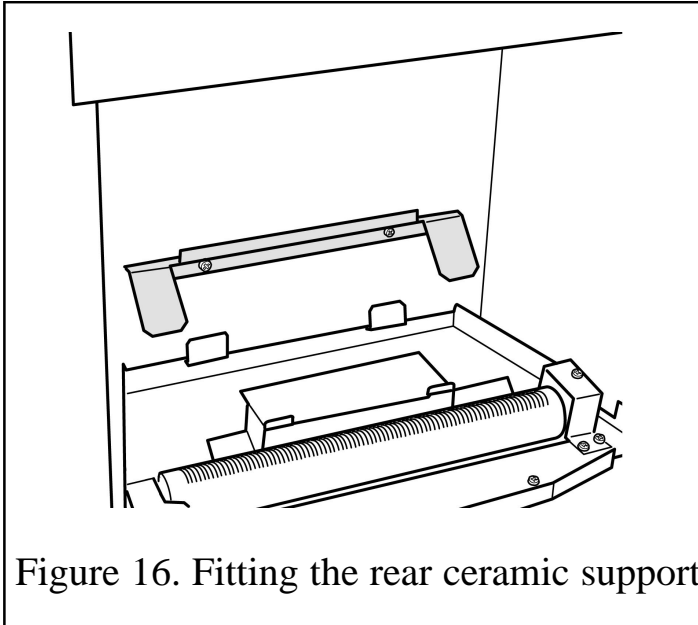

Figure 16. Fitting the rear ceramic support.
9. This appliance is supplied with a rear ceramic support bracket. Fit this using two screws supplied (See figure 16).